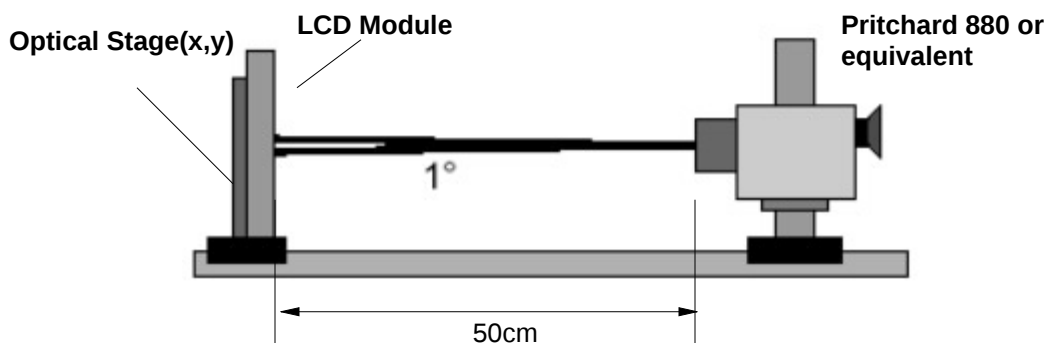

FIG. 1 Optical Characteristic Measurement Equipment and Method
FIG. 1 shows additional information concerning the measurement equipment and method.
2. Surface luminance are determined after the unit has been 'ON and 1 Hour after lighting the backlight in a dark environment at $25 \pm 2^\circ\text{C}$. Surface luminance is the luminance value at center 1-point across the LCD surface 50cm from the surface with all pixels displaying white. For more information see the FIG. 1.